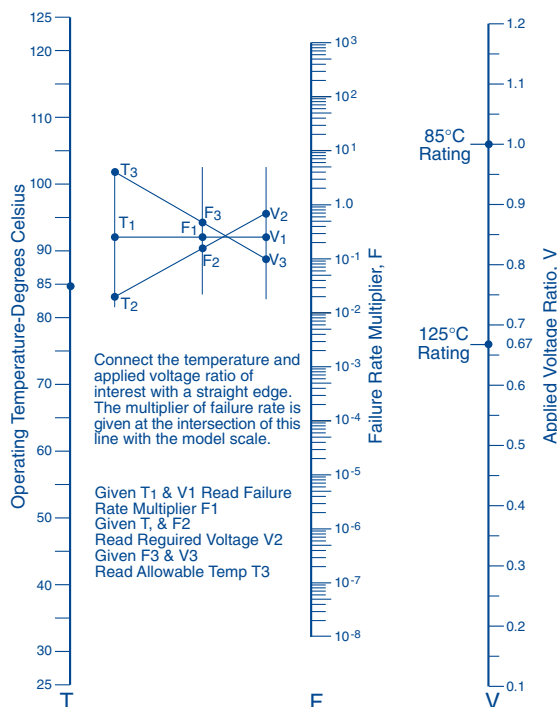

Fig.5 Reliability Alignment Chart
Expected reliability factors for voltages and temperatures other than the rated conditions may be found in Figure 5. Since **T240** Series capacitors are supplied with a predetermined failure rate under rated conditions, reliability under use conditions may be estimated with this nomograph.
**Circuit Impedance** — Failure rates are affected by temperature and voltage as described in Figure 5 and also by the circuit impedance seen by the capacitor. Traditionally, application advice for solid tantalum capacitors suggested an impedance of 3 ohms or higher per applied volt. This advice was later found to be unnecessarily conservative, and the factors in Table II, are based on 0.1 ohm per volt as the unity failure rate multiplier.